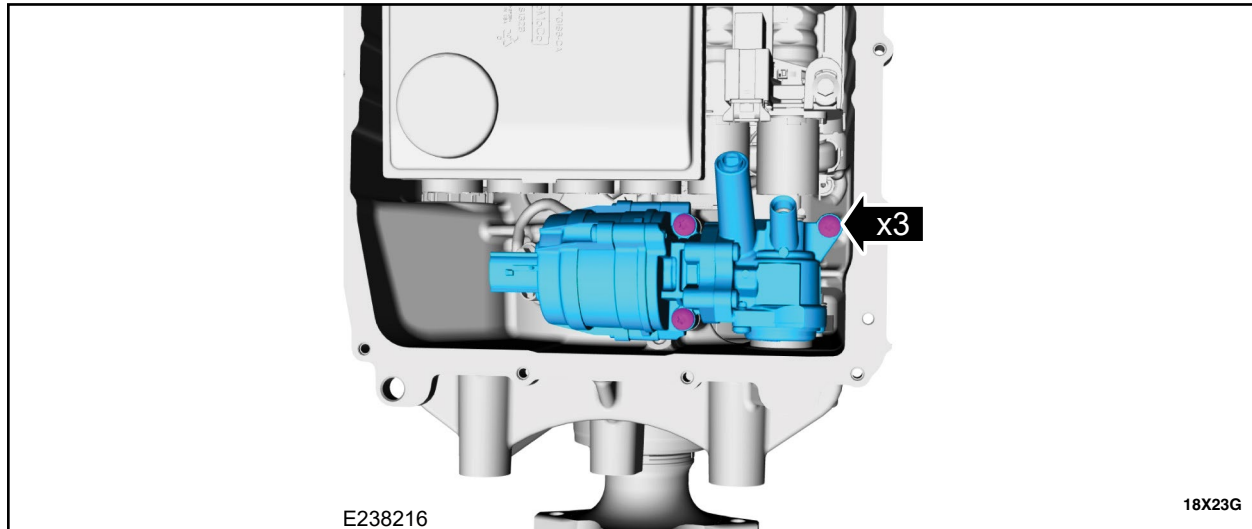

FIGURE 5
7. Remove the bolts and the transmission fluid auxiliary pump. See Figure 5.